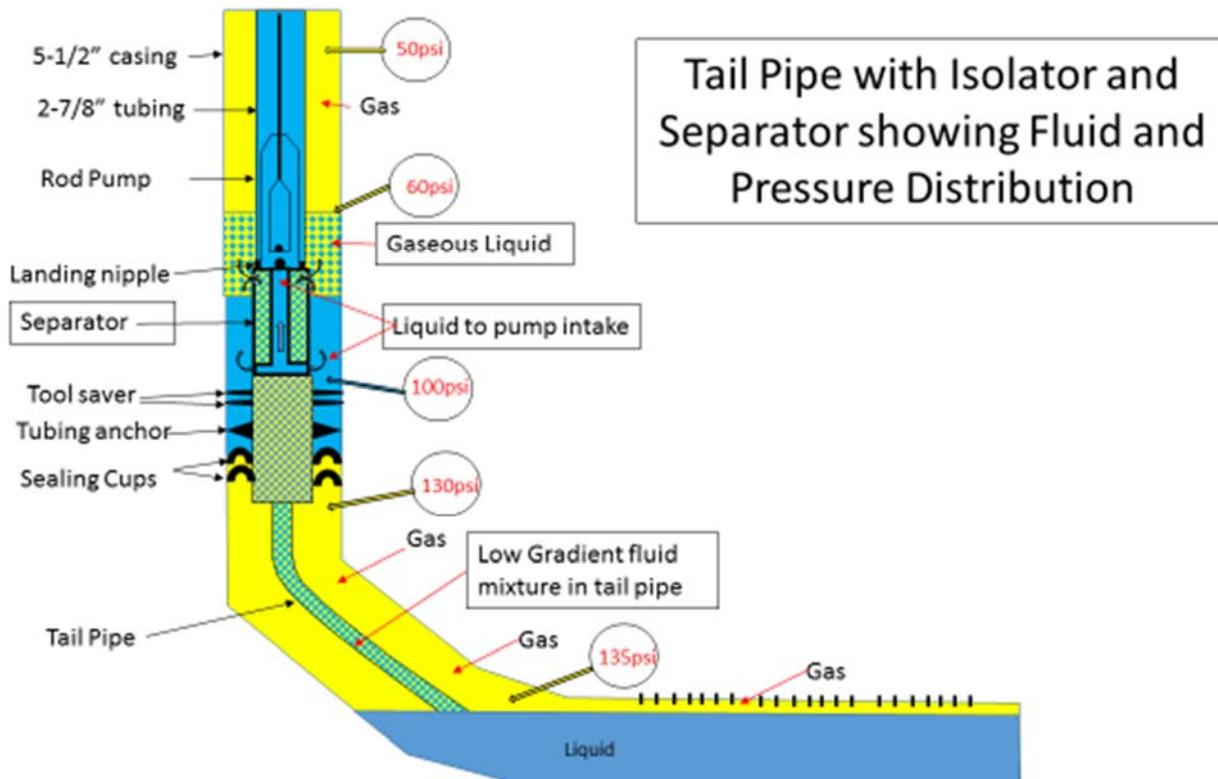

Figure 6 – Typical UPS Installation Schematic Showing Fluid and Pressure Distribution.
- The recommended UPS assembly is represented schematically in Figure 6
The equipment and pressures that are expected during normal operation are shown in Figure 6 below. Note that the pressure above the Isolator cups is less than the pressure that will exist below the Isolator. If the pump is unseated or sufficient liquid is poured down the casing, the pressure above the Isolator cups will be greater than the gas pressure below the cups and the liquid will flow downward past the Isolator cups. Sand will be washed away by the liquid. It is important that the cups prevent flow in the upward direction past the Isolator cups. Downward liquid flow is desired to wash the sand and debris away. Note the design of the Isolator cups below in Figure 7.